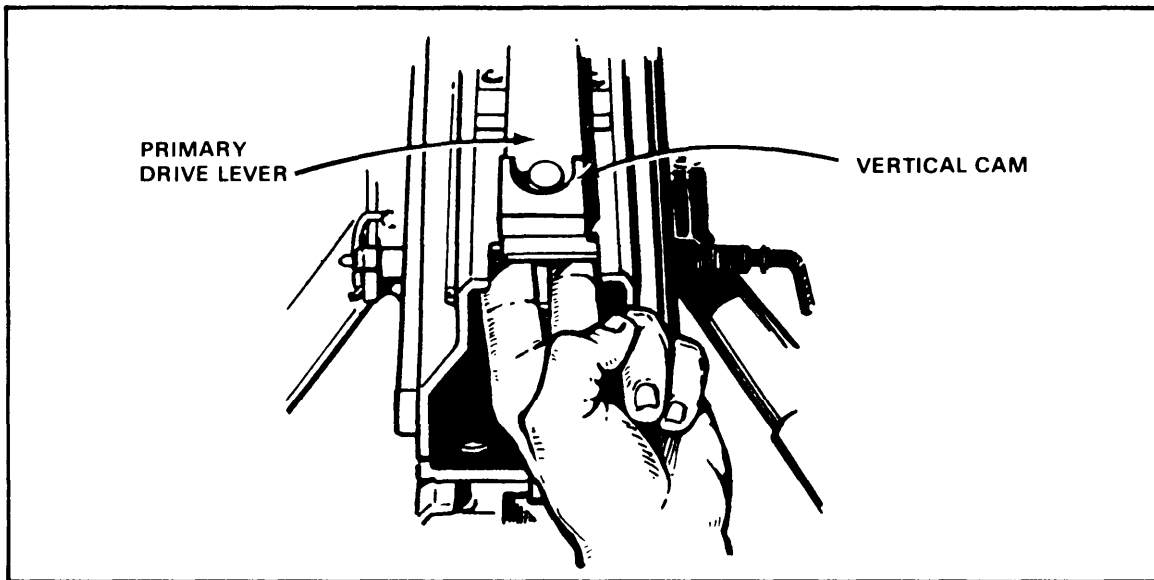

Figure 2-12. Primary drive lever and vertical cam.
- (6) Take off the primary drive lever and vertical cam:
- (c) Pull the primary drive lever from the front of the weapon and the vertical cam from the back (Figure 2-12).